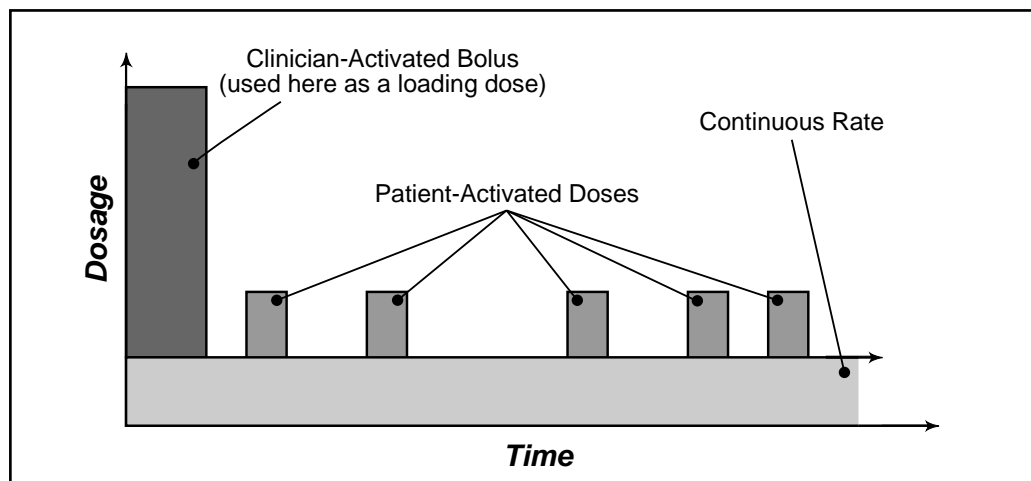

Figure 3. Combined delivery modes. You may program each mode individually or in combination with each other.
The CADD-PCA[®] pump has three methods, or modes, of delivery: (1) Continuous Rate mode (rate); (2) Patient-Activated Dose mode (dose); and (3) Clinician-Activated Bolus mode (bolus). You may program each of the modes individually or in combination with each other. The following graph, Figure 3, illustrates the combined delivery modes. Further details concerning these delivery modes are introduced in Section 3.3, “Programming the CADD-PCA[®] Pump,” and Section 3.9, “Using the Optional Clinician-Activated Bolus (MG or ML).”